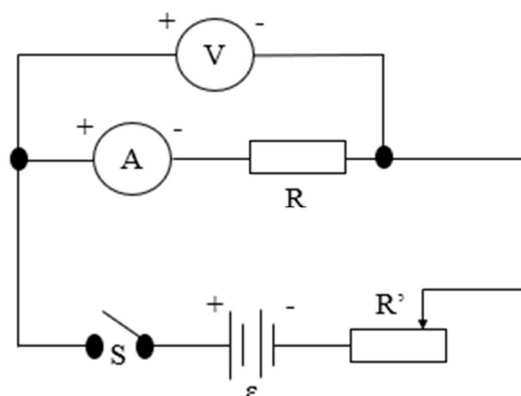

Figure 2
6. Repeat the above steps using the high-resistance method (Figure 2). Record data in Table 2 and plot the graph on the same paper as Curve B. Calculate the average resistance R_{hi} .